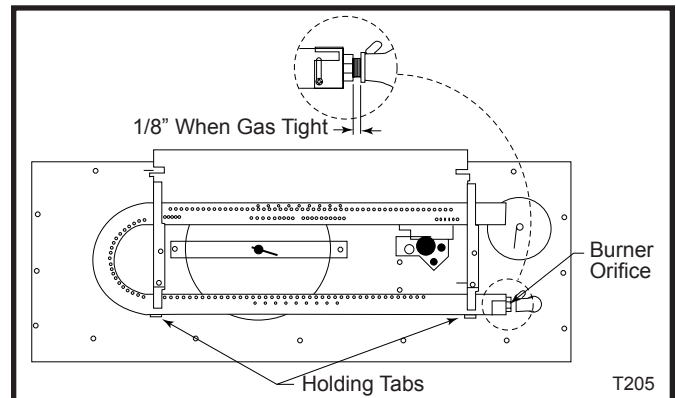

Fig. 39 Bend holding tabs down and forward.
2. Use screwdriver and bend holding tabs down and forward. (Fig. 39 & 40)
4. Using a suitable tool, replace natural orifice #44 with propane orifice 1.45 mm furnished with conversion kit. Tighten orifice with suitable tool until gas tight. (Fig. 39)